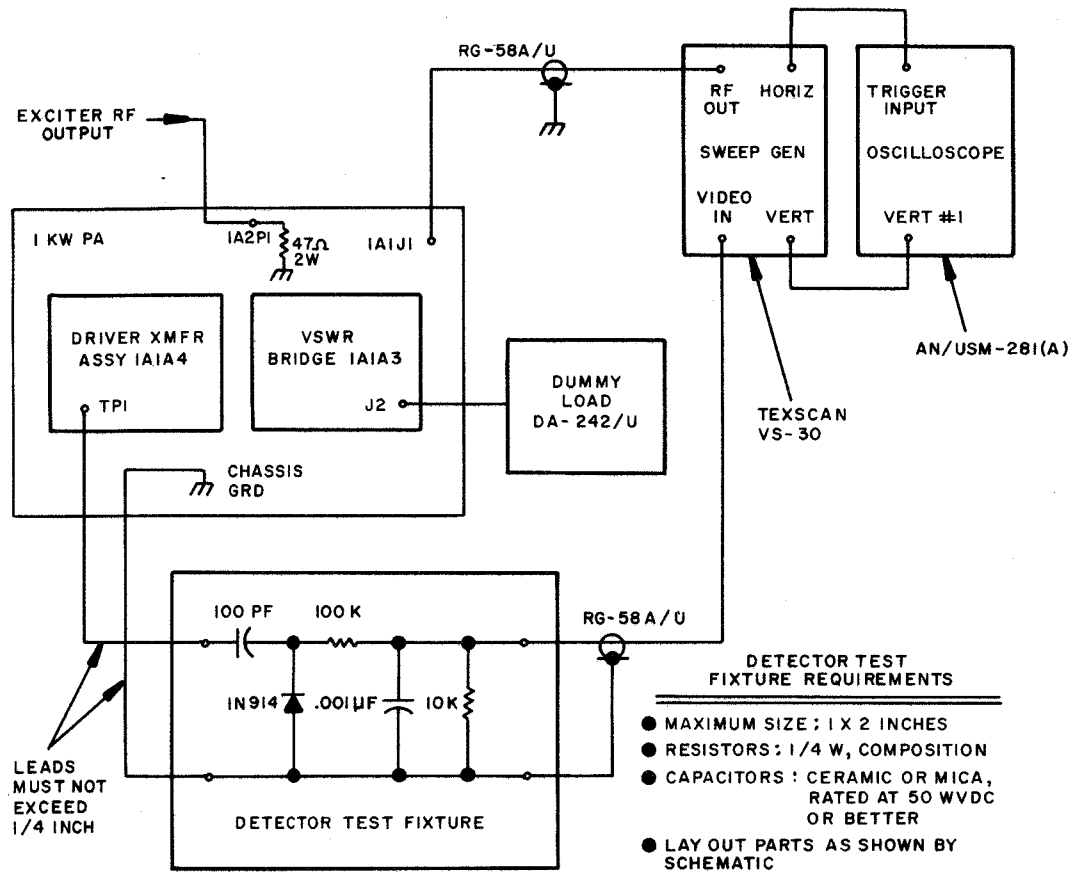

Figure 5-2. Driver Transformer Alignment Test Setup
- f. Detector test fixture (fabricate per figure 5-2).
- b. Connect test equipment with 1 KW PA to provide test setup illustrated by figure 5-2. Note that Detector Test Fixture is placed at driver transformer 1A1A4 so that very short (1/4") leads are utilized. Shielded RF cables connect between sweep generator and 1 KW PA and between sweep generator and Detector Test Fixture.